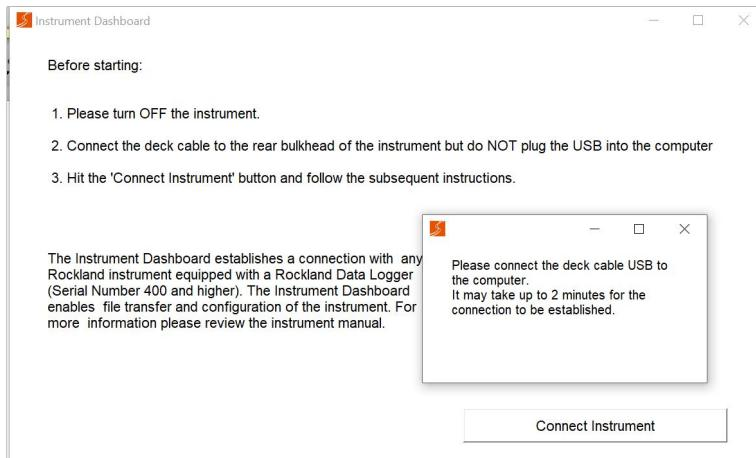

Figure 29: Zissou Essentials Prompt to Connect USB to Computer.
6. When prompted (Figure 29), plug the USB end of the deck cable to the computer and wait for the RDL Memory Module to be detected (up to 2 minutes). A notification should